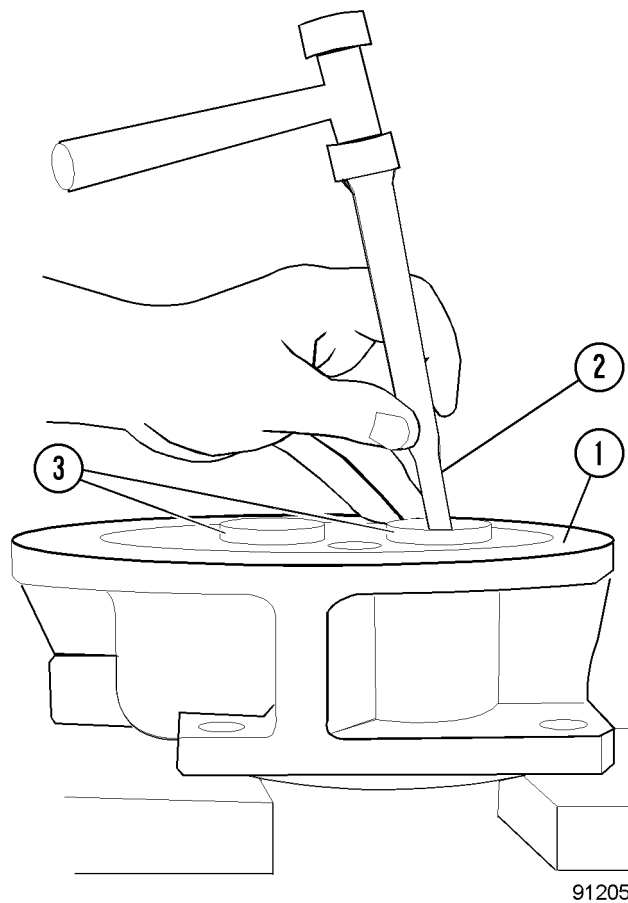

FIGURE 3-8. SHAFT SEAL REMOVAL
15. Use a punch and hammer to tap the outboard shaft seal out of the flange bore. (Refer to Figure 3-8.) Be careful not to mar, scratch or damage the seal bore surface or bearings.